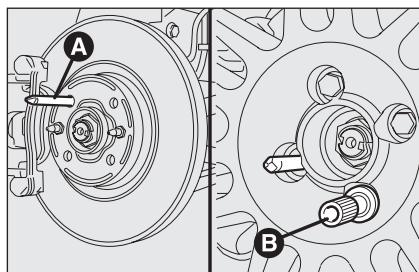

fig. 9
- ☐ tighten pin **A**-fig. 9 in one of the holes of the wheel hub fastening bolts;